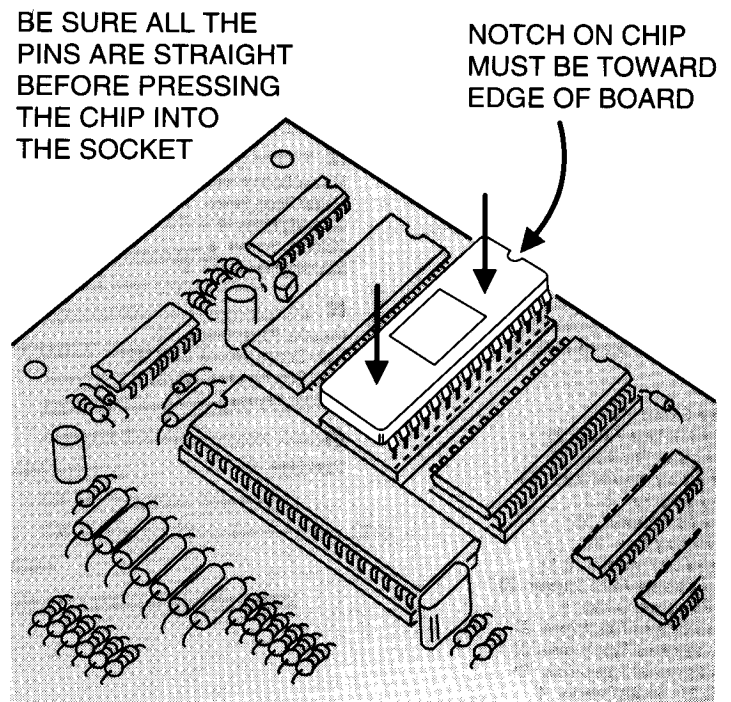

Figure 56. Inserting New Program Memory Chip
STEP 5 Insert new program memory chip. Remove the new chip from its static protection foam. Verify that all the chip's pins are straight. Carefully insert the new chip into the socket with the notch on the chip towards the top edge of the circuit board. Be sure all the chip's pins are going into the socket correctly before pressing the chip firmly into the socket (see Figure 56).